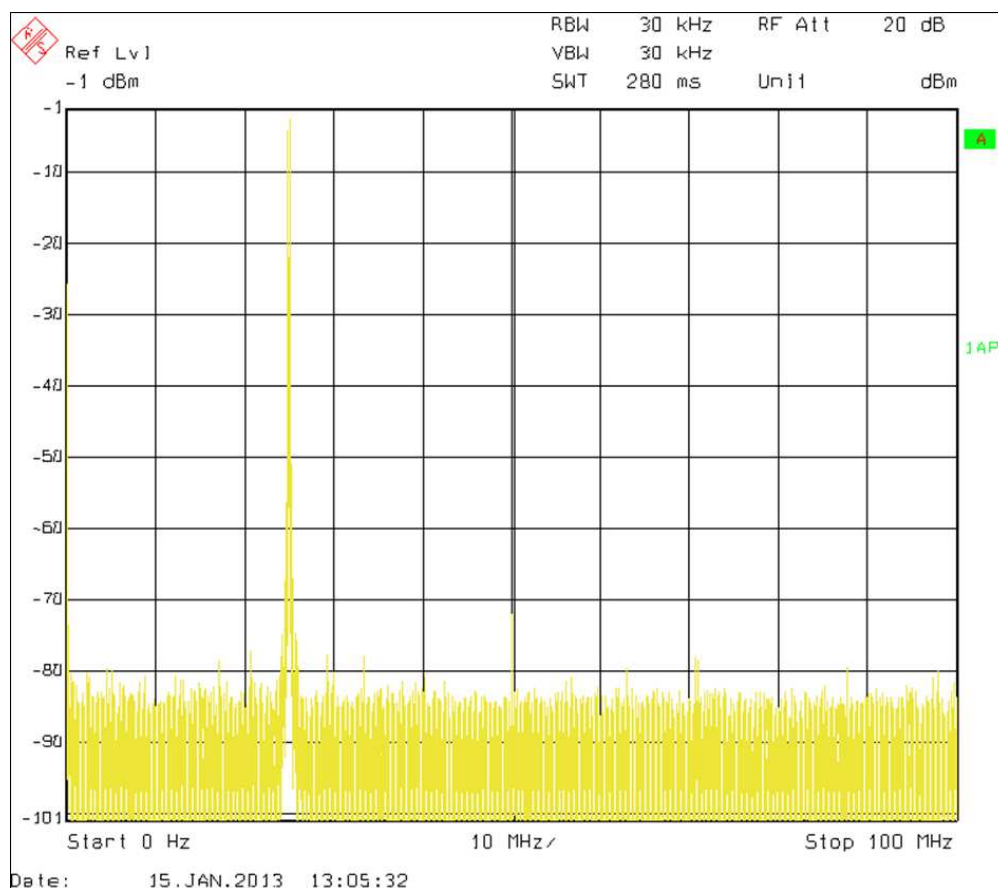

Figure 7. DAC3162EVM Output
- In the top left of the GUI, click the **Send** button to start the Pattern Generator. The IOUTA2 and IOUTB2 SMA's now have a 25-MHz output tone, as shown in Figure 7.